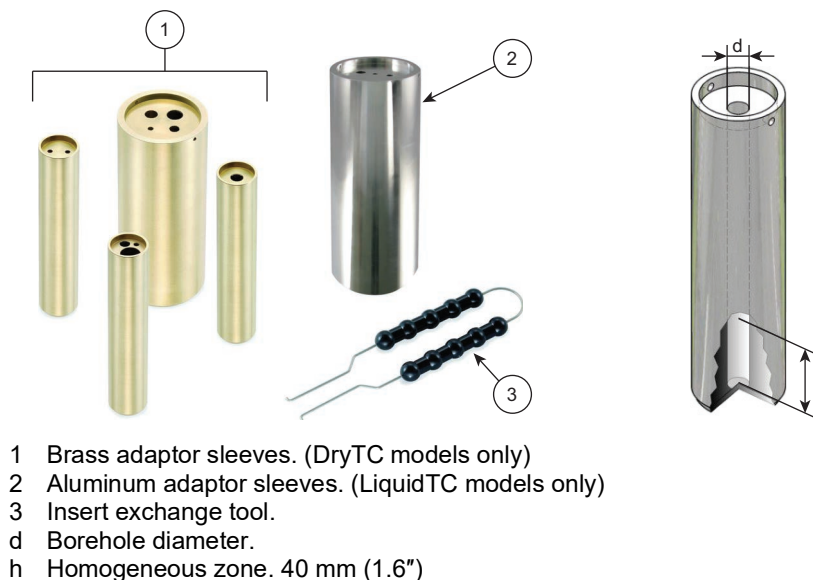

Figure 3: Adaptor Sleeve Inserts
2. The measurement element of the DUT must be located in the homogeneous temperature zone of the adaptor sleeve. See Figure 3, dimension h.
The adaptor sleeve is inserted into the dry block using the insert exchange tool, see Figure 3 item 3.
2. Pull the adaptor sleeve out of the dry block with the help of the insert exchange tool, see Figure 3 item 3.